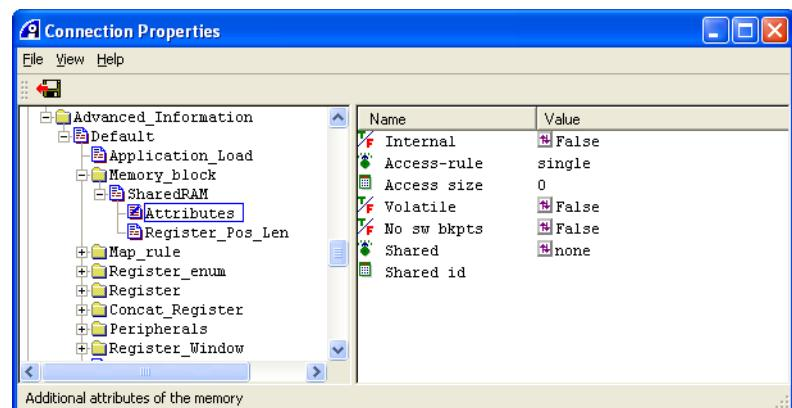

Figure 7-18 Memory block attributes
6. Select **Attributes** in the left pane to display the list of attributes for this memory block. Figure 7-18 shows an example:
8. If this is a code region for both processors, then it is not advisable to use software breakpoints. To prevent software breakpoints being set in this memory area, set the No_sw_bkpts setting to **True** (see Figure 7-18 on page 7-30).